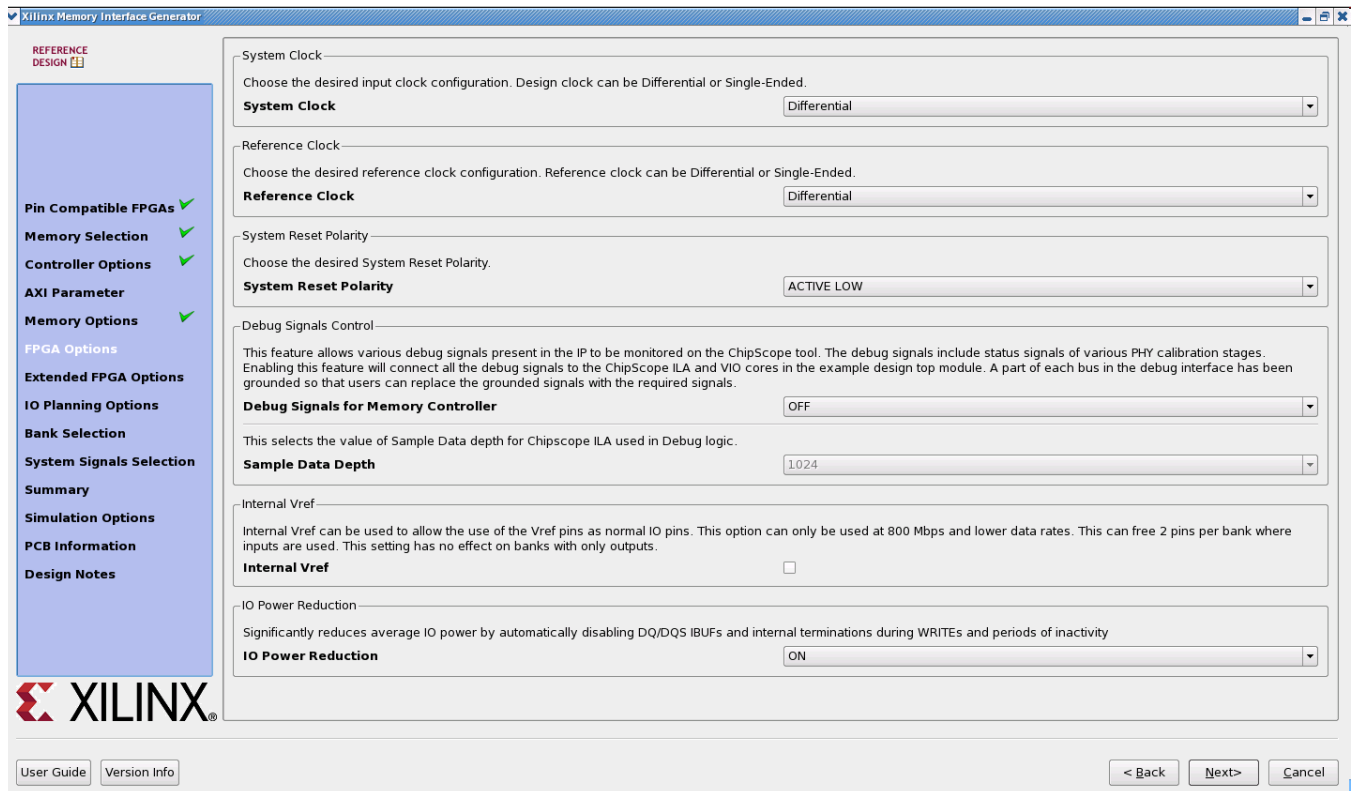

Figure 4-21: FPGA Options
Figure 4-21 shows the FPGA Options page.
- **sys\_clk** – This is the system clock input for the memory interface and is typically connected to a low-jitter external clock source. Either a single input or a differential pair can be selected based on the System Clock selection in the FPGA Options page (Figure 4-21). The `sys_clk` input must be in the same column as the memory interface. If this pin is connected in the same banks as the memory interface, the MIG tool selects an I/O standard compatible with the interface, such as DIFF\_SSTL12 or SSTL12. If `sys_clk` is not connected in a memory interface bank, the MIG tool selects an appropriate standard such as LVCMOS18 or LVDS. The XDC can be modified as desired after generation.
- **clk\_ref** – This is the reference frequency input for the IDELAY control. This is a 200 MHz input. The `clk_ref` input can be generated internally or connected to an external source. A single input or a differential pair can be selected based on the System Clock selection in the FPGA Options page (Figure 4-21). The I/O standard is selected in a similar way as `sys_clk`.
- **sys\_rst** – This is the system reset input that can be generated internally or driven from a pin. The MIG tool selects an appropriate I/O standard for the input such as LVCMOS18 and LVCMOS25 for HP and HR banks, respectively. Default polarity of `sys_rst` pin is active-Low. Polarity of `sys_rst` pin varies based on "System Reset Polarity" option chosen in **FPGA Options** page (Figure 4-21).